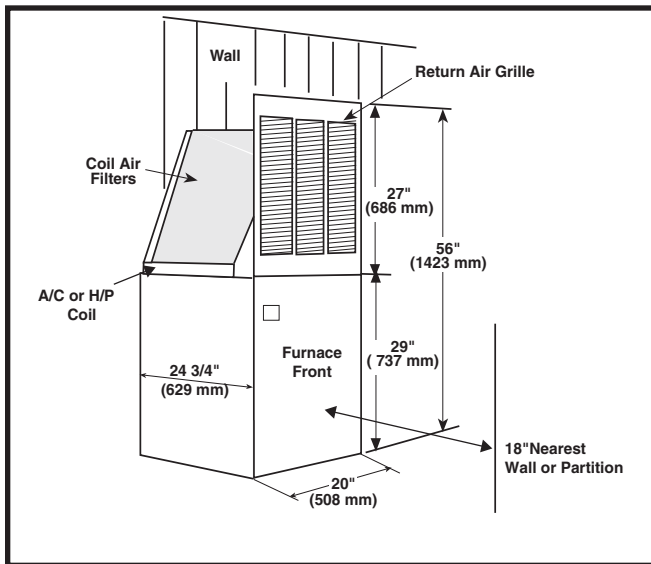

Figure 13. Alcove Installation
1. Cut alcove rough openings to minimum dimensions shown in Figure 13 (page 12).